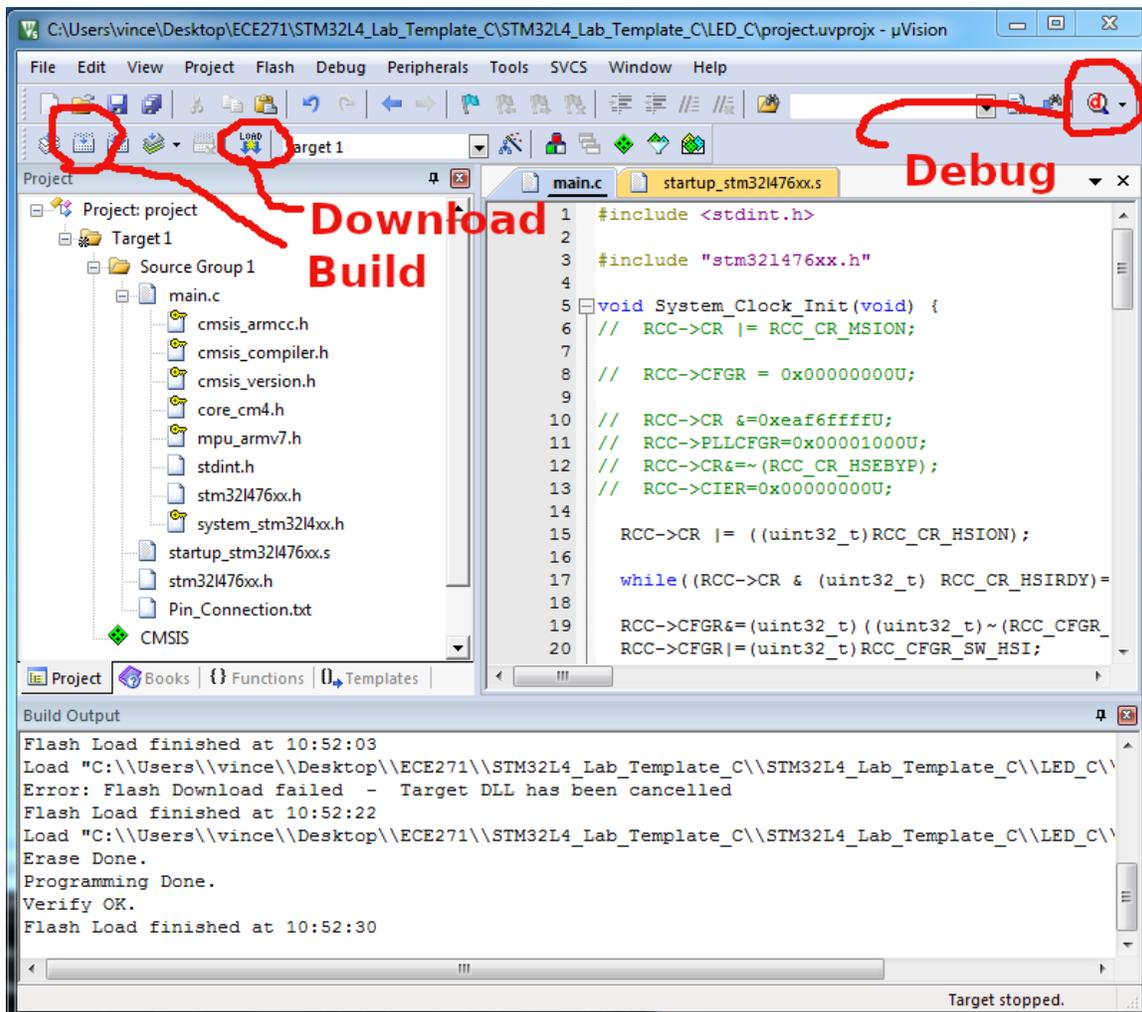

Figure 3: Useful things to click in μ Vision.
- iv. Click on the “build” button to build. This is near the top left, and looks like a box with an arrow going into it. See Figure 3 if you have trouble finding the icon.
- iii. Now download your code to the board by pressing the “download” button. Again see Figure 3 for guidance on what that looks like.